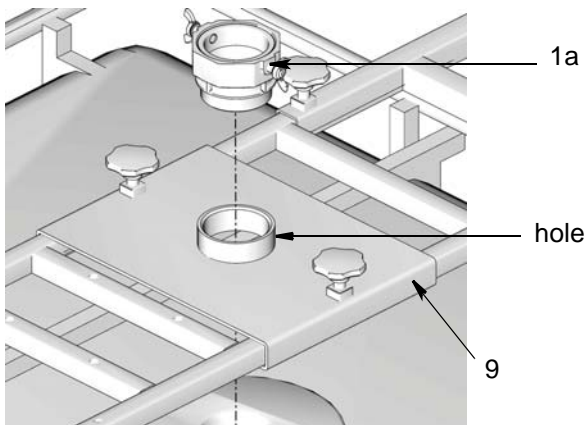
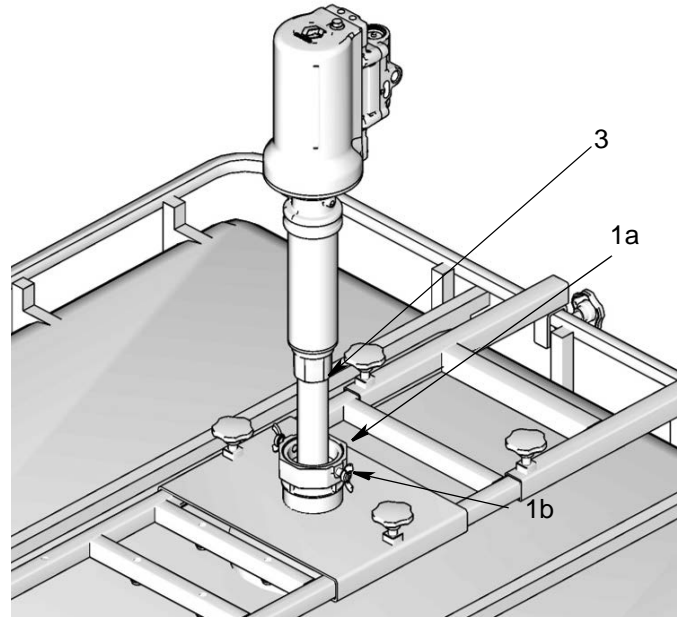

FIG. 9
FIG. 10
2. For **NPT** and **BSPT models only**, apply thread sealant to threads of suction tube/hose (3) then install the end of the suction tube/hose into the pump (1) inlet housing (FIG. 9).
**BSPP** models are designed to seal with the pump inlet filter and do not require thread sealant. For these models just install the suction tube/hose (3) into the pump (1) inlet housing.
3. Insert the pump suction tube (3) through the bung adapter (1a) and into tank (FIG. 10). Secure the pump in place by tightening the gasket screws (1b)
(FIG. 10).